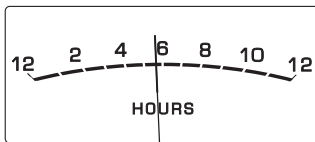

Figure 11
1. Rotate the METERS LIGHTS Control to switch the Meter illumination On/Off. Refer to figures 11, 12 and 13.